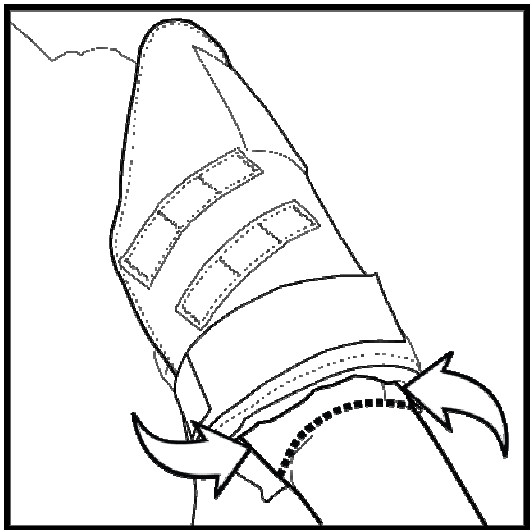

Figure 27. Installing Deltoid Protectors.
24. Install deltoid protector (as required) (Figure 27).